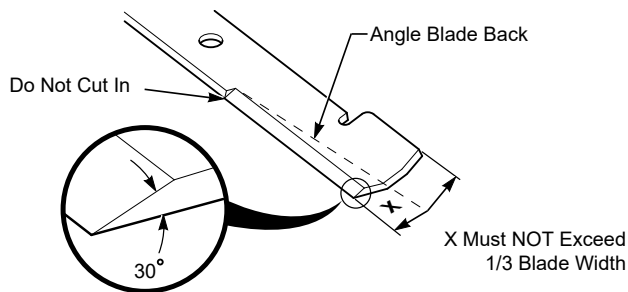

Figure 7-9. Blade Sharpening
DO NOT sharpen the blades beyond 1/3 of the width of the blade. See Figure 7-9.
1. Sharpen the cutting edge at the same bevel as the original. See Figure 7-9. Sharpen only the top of the cutting edge to maintain sharpness.